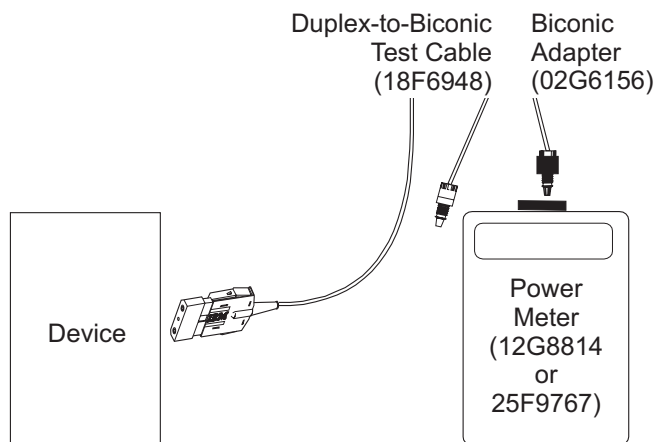

Figure C-6. Measuring Transmit-Out Power for an ESCON Multimode Link
- Figure C-6; ESCON multimode link